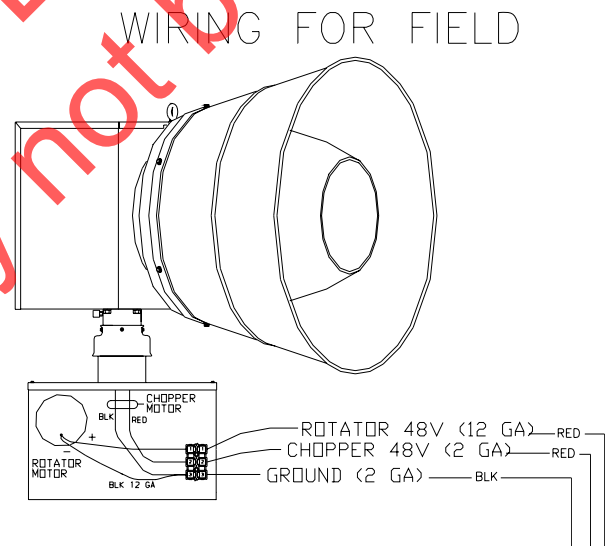

Figure 3-6. Wiring for Rotator Motor
Three wires are required to operate the 2001-130. One #2 AWG red wire from the 48VDC chopper control contactor output of the controller provides positive power to the chopper motor. One #12 AWG red wire from the rotator control contactor output of the controller provides positive power to the rotator motor. One #2 AWG black wire provides a common 48VDC negative ground between the ground plane of the control cabinet and siren motors. See Figure 3-6 for the wire connections in the 2001-130. Consult the manual for the controller being utilized to connect the wires from the head.
3. Wire rotator motor and terminal block as shown in Figure 3-6.